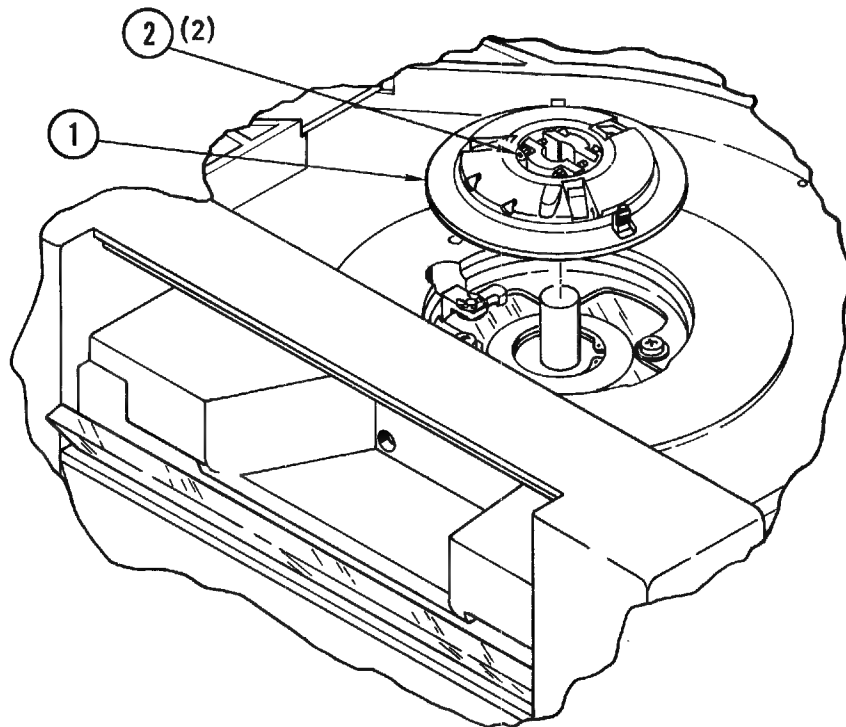
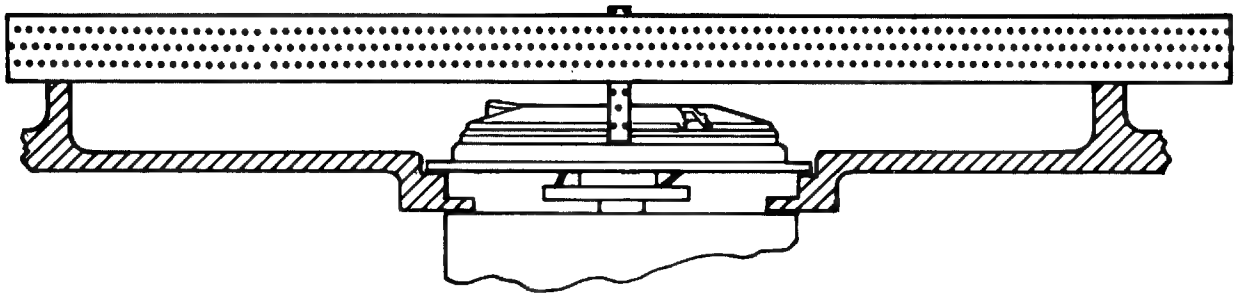

Figure 4-8. Supply Hub Assembly
Figure 4-9. Supply Hub Adjustment
4-23. **Removal, Replacement and Adjustment (Figure 4-8).** Place transport in operator maintenance access position in accordance with paragraph 4-2 and proceed as follows:
- a. Rotate hub assembly (1, Figure 4-8) so that socket-head screws face front panel door.
- b. Open front-panel door and loosen socket-head screws (2).
- d. Install replacement hub on shaft, and position hub height gauge, Cipher Part No. 760105-545, as shown in Figure 4-9 so that it contacts the raised machined surface of the top plate. Raise the supply hub until the reference surface contacts the hub-height tool.
- e. Ensuring that hub-height tool is in contact with both the top plate and reel hub, tighten socket-head screws (2).